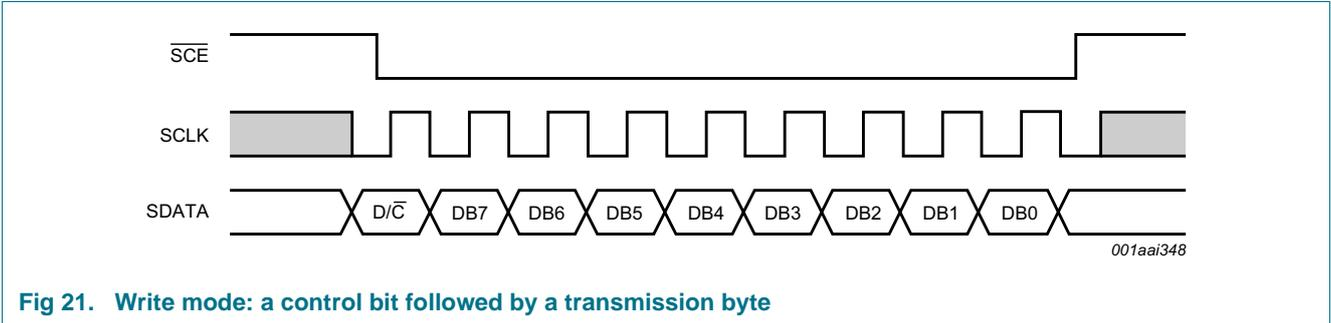
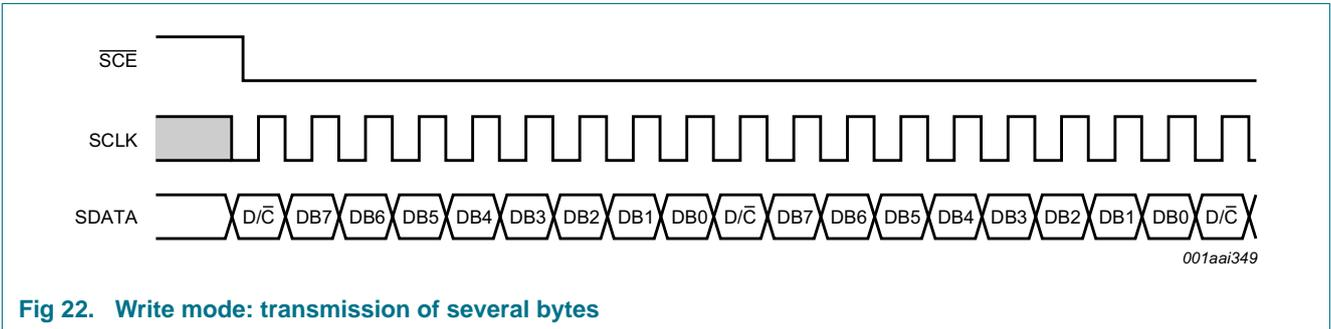
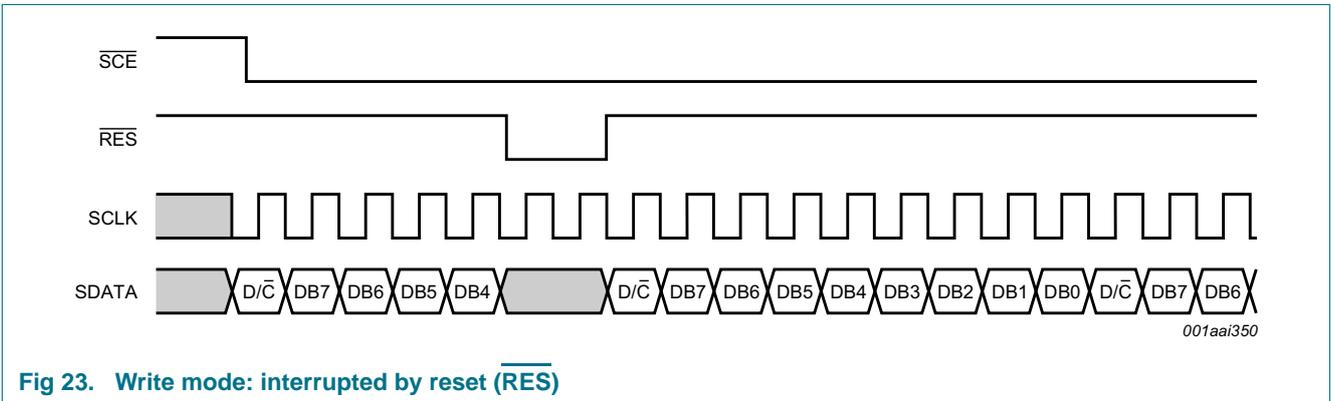

Fig 21. Write mode: a control bit followed by a transmission byte
Fig 22. Write mode: transmission of several bytes
Fig 23. Write mode: interrupted by reset ( $\overline{\text{RES}}$ )
Figure 21, Figure 22, and Figure 23 show the protocol of the write mode:
- If  $\overline{SCE}$  stays LOW after the last bit of a data/command byte, the serial interface receives the  $D/\overline{C}$  bit of the next byte on the next rising edge of SCLK, see Figure 22
- A reset pulse  $\overline{RES}$  interrupts the transmission. The data being written into the RAM may be corrupted. The registers are cleared. If  $\overline{SCE}$  is LOW after the rising edge of  $\overline{RES}$ , the serial interface is ready to receive the  $D/\overline{C}$  bit of a data/command byte, see Figure 23.